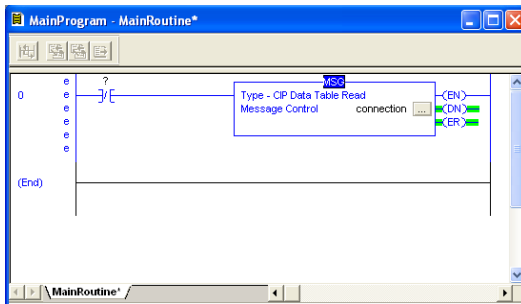

Figure 55: MainRoutine
- e) Click “OK” to close the MSG Configuration dialog. At this stage, MainRoutine should look like Figure 55.